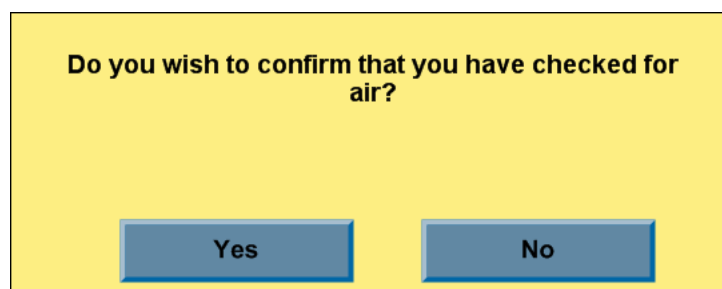

Figure 10 - 2: I Checked for Air Confirmation
2. Perform the I Checked for Air confirmation (Figure 10 - 2: I Checked for Air Confirmation):